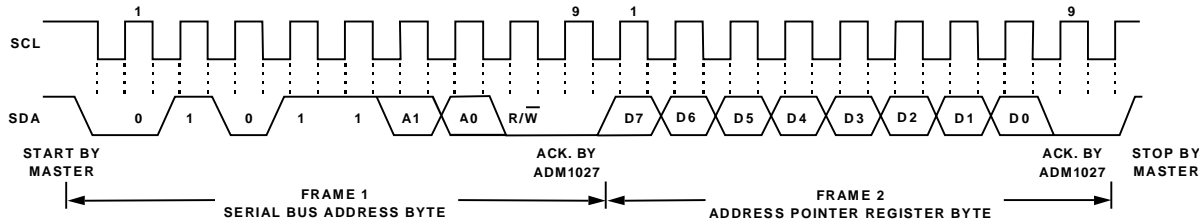

Figure 2b. Writing to the Address Pointer Register only
be written to the register. This is shown in Figure 2b.
2. If the Address Pointer Register is known to be already at the desired address, data can be read from the corresponding data register without first writing to the Address Pointer Register, so Figure 2b can be omitted.